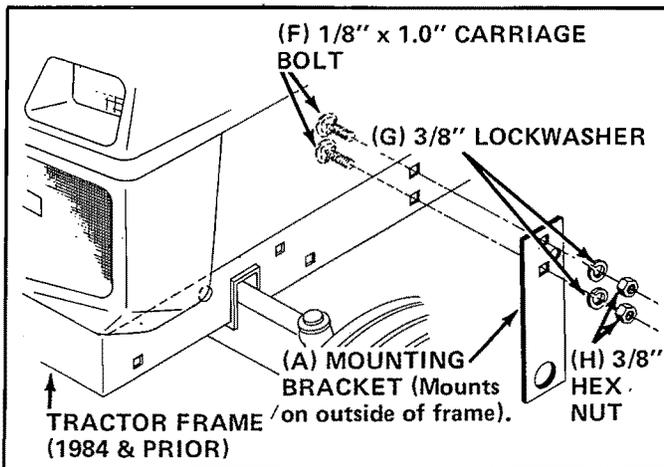

FIGURE 8A
3. Assemble mounting brackets (A) to each side of lawn tractor frame using four (\*) 3/8" x 1.0 carriage bolts (F), 3/8" lock washers (G) and 3/8" hex nuts (H). See figure 8A or B.